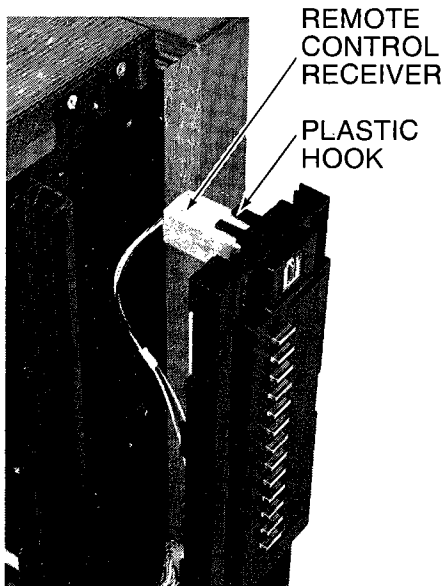

Fig. 14 — Remote Receiver
3. Lift the plastic hooks (Fig. 14).